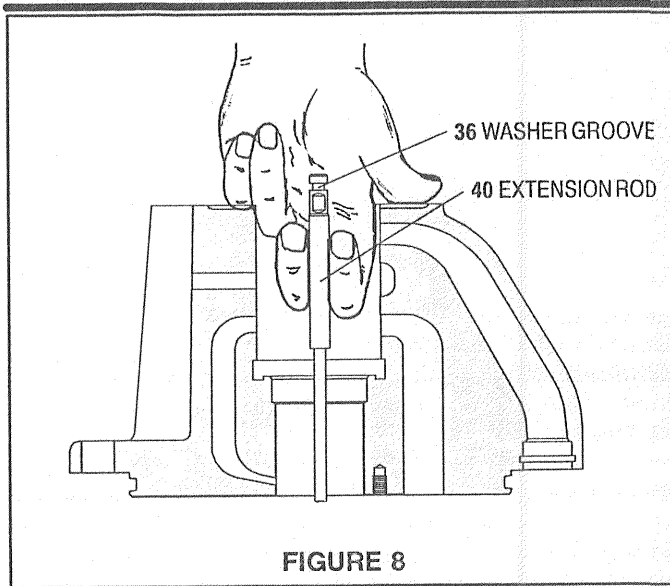

FIGURE 8
- Place the (44) washer over the (40) extension rod.
- Pull the (40) extension rod up and grasp with two fingers (see figure 8).
- Place the 90350 installation tool over the (40) extension rod, with the turned diameter down and the chamfer up.
- Fit the turned diameter of the 90350 installation tool into the bore in the bottom of the (18) head assembly.
- Place the (42) piston adapter down over the (40) extension rod, with the threads up.
- Insert the (36) washer into the groove in the top of the (40) extension rod.